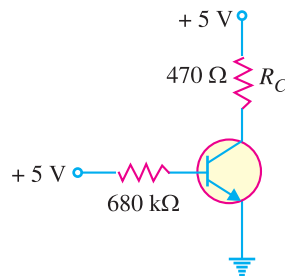

Fig. 8.71
10. Draw the d.c. load line for Fig. 8.71. [The end points of d.c. load line are **10.6 mA** and **5V**]
11. If the collector resistance R_C in Fig. 8.71 is increased to $1\ \text{k}\Omega$, what happens to the d.c. load line? [The end points of d.c. load line are now **5 mA** and **5 V**]